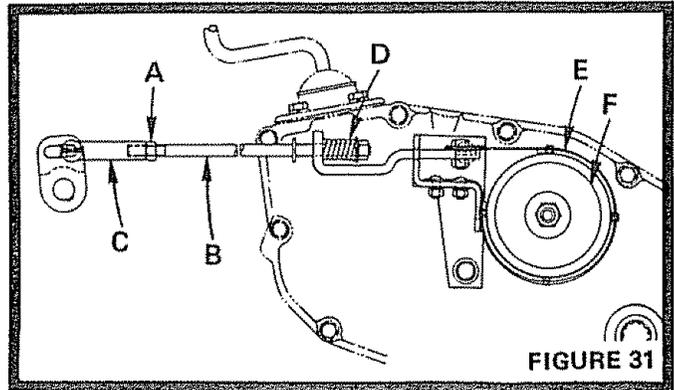

FIGURE 31
- b. Loosen Jam Nut (A) on Brake Rod (B) at Clevis (C) (Fig. 31).
- c. Rotate Brake Rod (B) counterclockwise, (↺) turning Brake Rod out of Clevis (C) four to six turns (Fig. 31).
- f. Shut engine off. Rotate Brake Rod (B) clockwise by hand, turning Brake Rod into Clevis (C), until tight. Tighten Jam Nut (A) on Brake Rod (B) at Clevis (C) (Fig. 31).